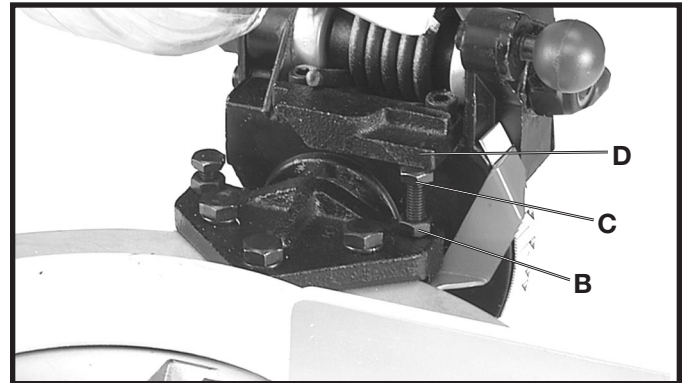

Fig. 27
3. If an adjustment is necessary, loosen locknut (B) Fig. 27, and turn screw (C) until head of screw (C) contacts casting (D) when blade is 90 degrees to the table. Then tighten locknut (B).